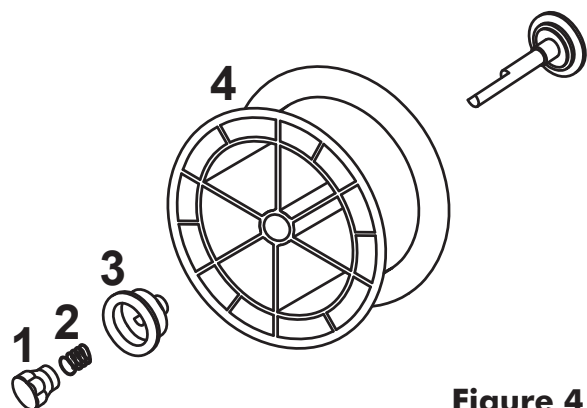
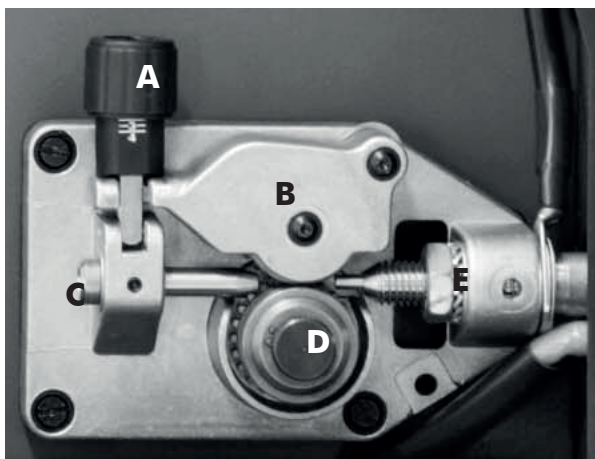

Figure 4
Figure 5
- Loosen the nut (1) of the spool holder (brakedrum) and remove the spring (2) and the external ring (3). (Fig.4)
- Remove the plastic protection from the spool (4) and place the wire spool on the spool holder.
- Mount the external ring (3), the spring (2) and the plastic lock nut (1) again. These parts form the braking system of the wire spool speed. NOTE: Do not tighten the nut too much, excessive pressure strains the wire feeding motor, while too little pressure does not allow the immediate stop of the wire spool at the end of the welding.
- Loosen and lower the plastic knob (A) (Fig.5). Open the pressure arm (B) of the feeder.
- Cut off a short section of the end of the wire to insure a straight end. Insert the the straight end into the wire inlet guide (C) past the wire feed roll and into the wire liner.
- Lower pressure arm (B) and lift pressure adjustment knob (A) into place.
- Adjust the pressure on the wire with knob (A) to insure smooth feeding without slippage. Do not over tighten the pressure adjustment as it may damage the motor.